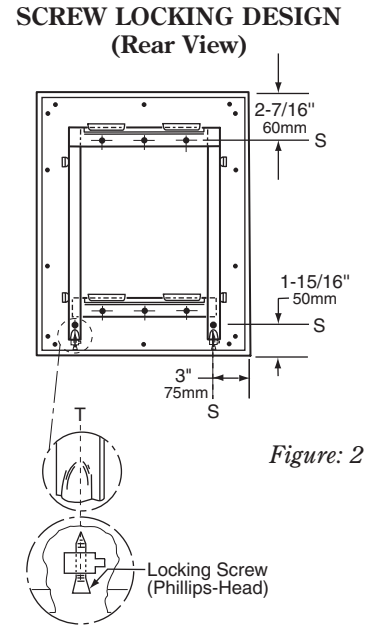

Figure: 2
**Frame** — 18-8 S, type 304, heavy-gauge stainless steel, 3/4" x 3/4" (19 x 19mm) angle with vertical-grain satin finish. One-piece, roll-formed construction forms continuous integral stiffener on all sides. Bevel design on front of angle holds frame tightly against mirror. Corners of mirror frame are heliarc welded, ground, and polished smooth. Galvanized steel back is fastened to frame with concealed screws and equipped with integral horizontal hanging brackets near the top for hanging the mirror and near the bottom to prevent the mirror from pulling away from the wall. Locking devices secure mirror to concealed wall hanger. In Screw Locking Design (see figure 2), concealed Philips-head locking screws securely fasten mirror to wall hanger.